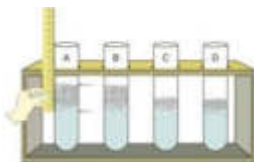

Fig. 3: Comparison of the foaming capacity of soap in distilled water and sample water.
8. Measure the height of the foam produced immediately with the help of a measuring scale (Fig. 3) and note it down in the Table-1.